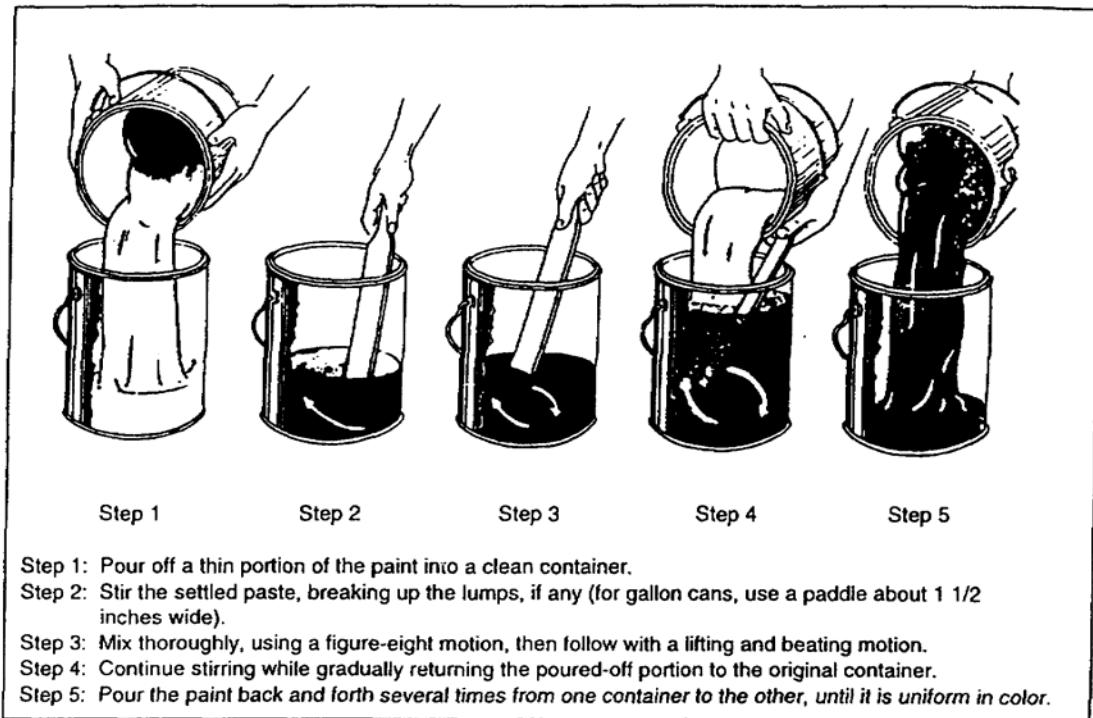

Figure 2-4. Boxing paint
(1) Boxing Use boxing when you are mixing paint by hand. Boxing consists of pouring the paint back and forth from one container to another. To do this, follow the procedures listed in Figure 2-4, page 2-18.